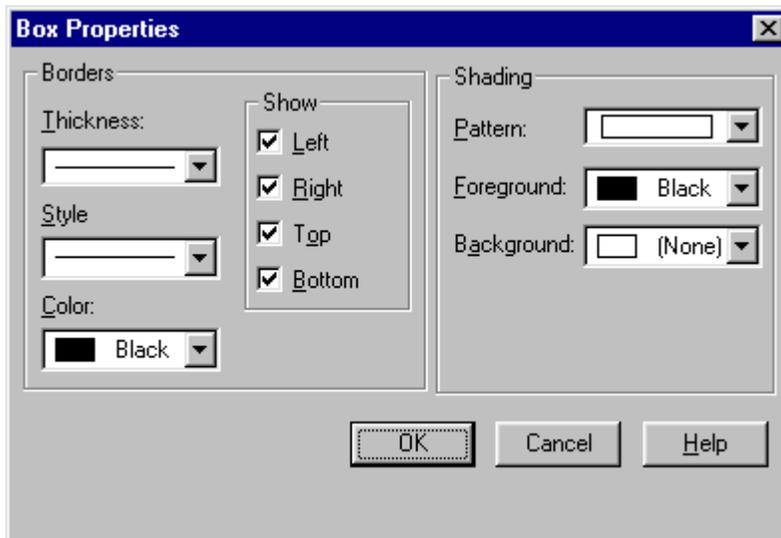

Figure 14.2 Box Properties Dialog Box
1. Open the Box Properties dialog (see Figure 14.2). The current Thickness, Style and Color settings are displayed in the Borders group box.